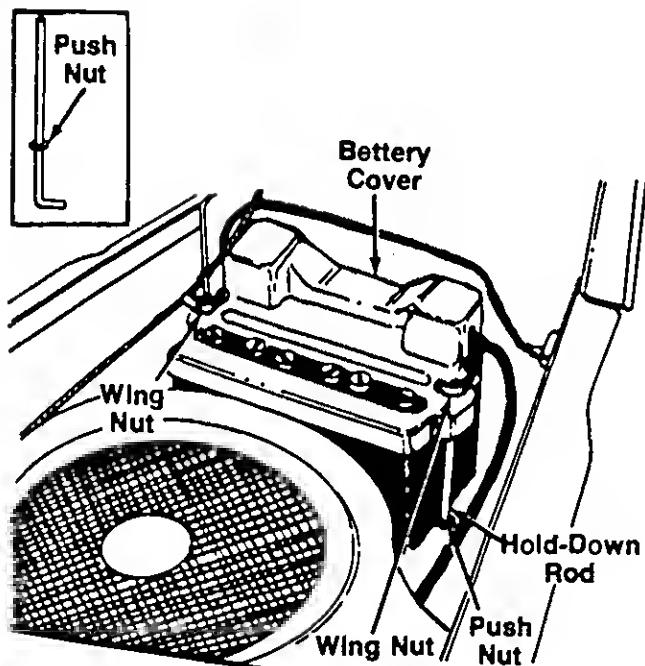

FIGURE 7.
4. Attach one push nut to each battery hold-down rod as follows. Thread the push nut, flat side down, over the threads on hold-down rod, then slide it further down the rod. See figure 7, Inset.
5. Hook one hold-down rod into the hole in battery plate beside the battery as shown in figure 7. Slide the push nut down the rod, against the battery plate. Place the black plastic battery cover in position over the hold-down rod. Secure with wing nut.